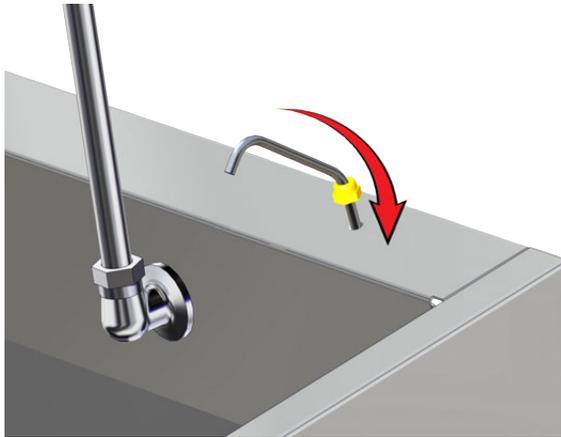

Fig. 8: Install Soap Spout
2. Feed the spout (item 1) through the small hole at the top of the sink (Fig. 8). The nut (item 2) should rest on top of the sink.